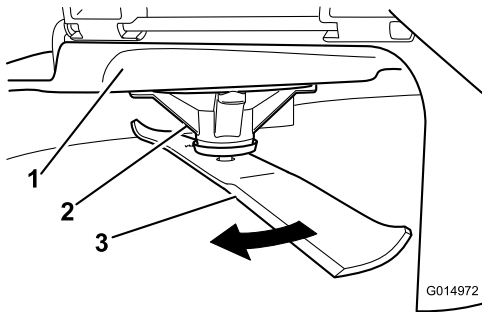

**Figure 72**
2. While wearing thickly padded gloves, or other adequate hand protection, slowly rotate the blade into a position that allows you to measure the distance between the cutting edge and the level surface the machine is on (Figure 72).